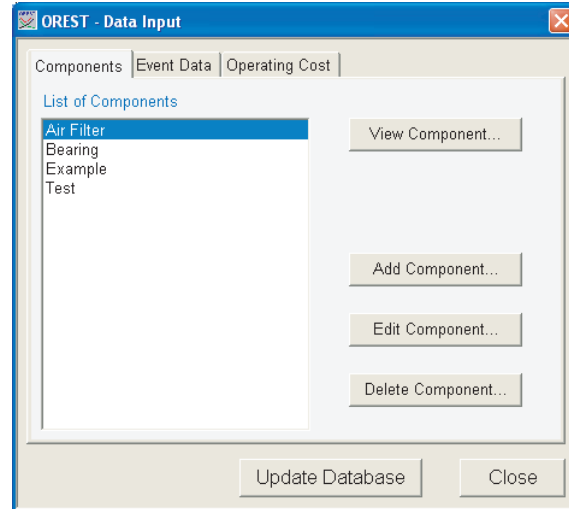

Figure 9: OREST screen shot
- Data Input (see Figure 9), where one can create/change components